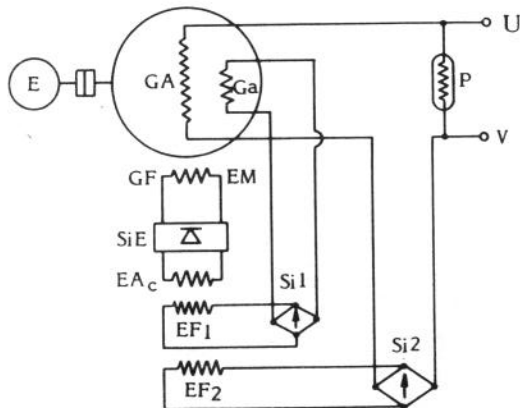

Fig. 1
This report explains the operation of the current feedback system (CFS), a load compensator incorporated in the K5000(B). The CFS circuit used in the K5000(B) contains two main coils, each designed to monitor the output levels in 120 V or 240 V operation. The following sections describe the operation of a single-coil system, which is a simpler version of the CFS. Figure 1 shows the load compensator circuit that stabilizes the K5000(B) output voltage.